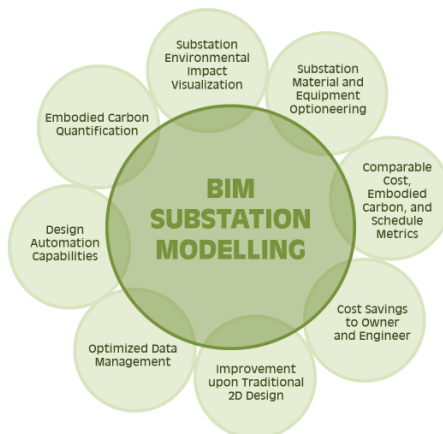

Figure 6: Sustainable Substation BIM Design Benefits
- BIM enables embodied carbon quantification for substation projects and allows utility owners and engineers to compare a tangible value against traditional design considerations for more optimized and sustainable designs. Several other benefits are shown in Figure 6.